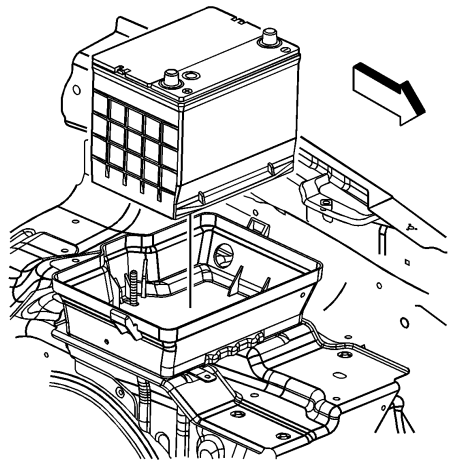

Fig. 7 Battery removal
15. Remove battery from lower battery box, **Fig. 7**.
1. Install battery into lower battery box, **Fig. 7**.